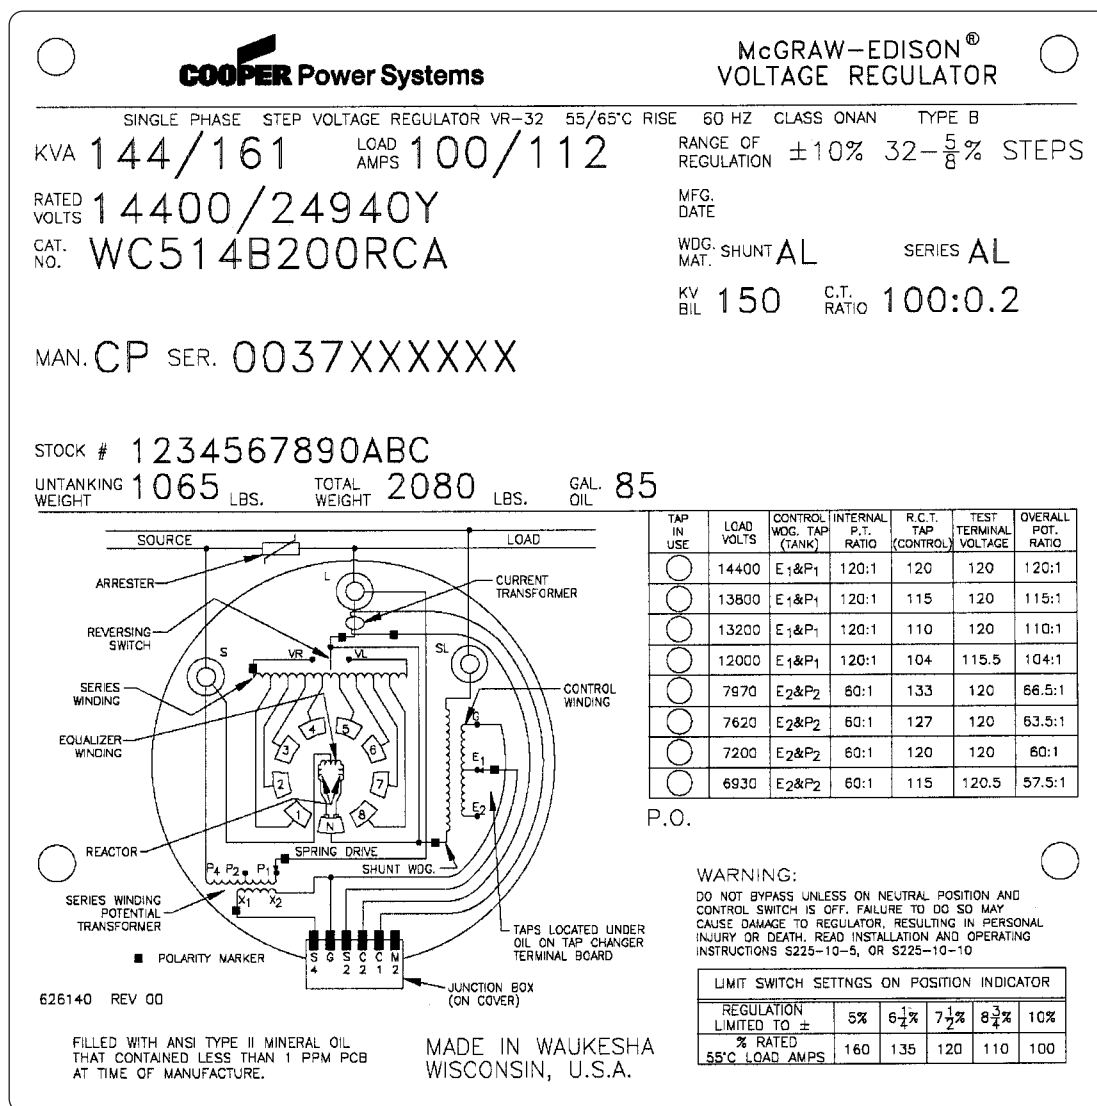

Figure 1-7.
3. Open V_1 knife switch (and V_6 if present) on back panel (see Figure 1-7, page 1-8).
6. Open load (L) disconnect switch.
7. Open source (S) disconnect switch.
8. Open source-load (SL) disconnect switch, if available.